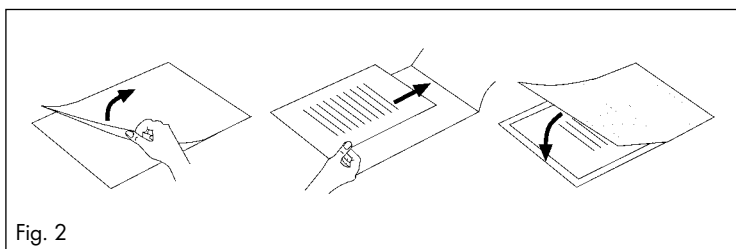

Fig. 2
- Make certain that you use only one pouch for laminating. First flip it up, as shown in Fig. 2.
- ▶ Make certain that you use only one pouch for laminating. First flip it up, as shown in Fig. 2.